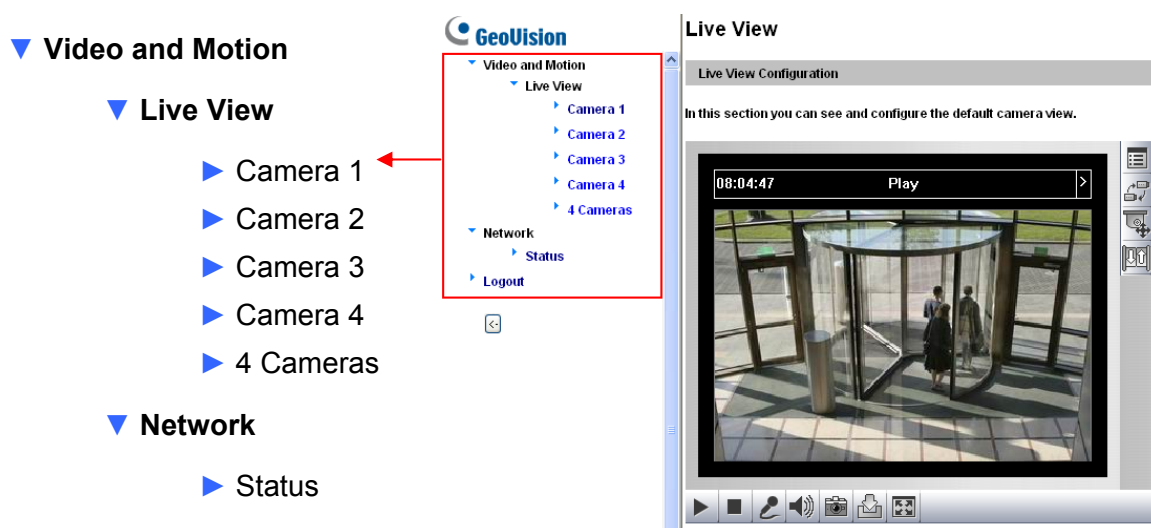

Figure 5-4
4. Click **Apply**. A video image, similar to the example on Figure 5-4, is now displayed in your browser.